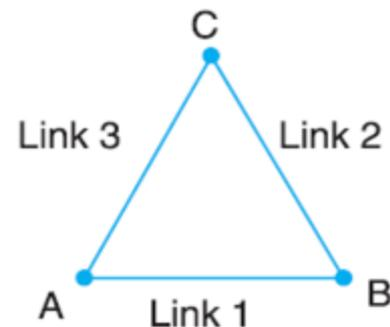

Fig. 5.6. Arrangement of three links.
1. Consider the arrangement of three links AB , BC and CA with pin joints at A , B and C as shown in Fig. 5.6. In this case,
Since the arrangement of three links, as shown in Fig. 5.6, does not satisfy the equations (i) and (ii) and the left hand side is greater than the right hand side, therefore it is not a kinematic chain and hence no relative motion is possible. Such type of chain is called **locked chain** and forms a rigid frame or structure which is used in bridges and trusses.